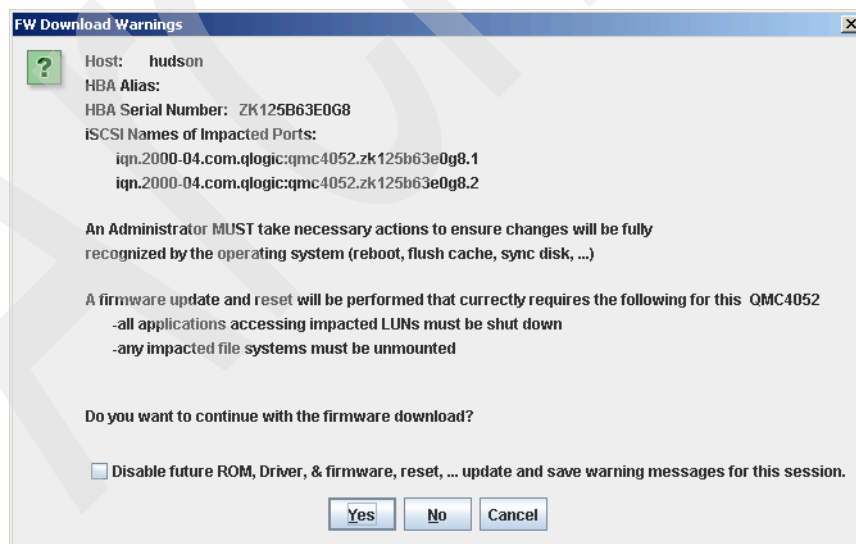

Figure 21-31 SANsurfer - Firmware download warning
9. A firmware download warning appears (Figure 21-31) about actions that need to be done before the update can be performed. At this stage of the setup, no further actions are required, so click **Yes**.